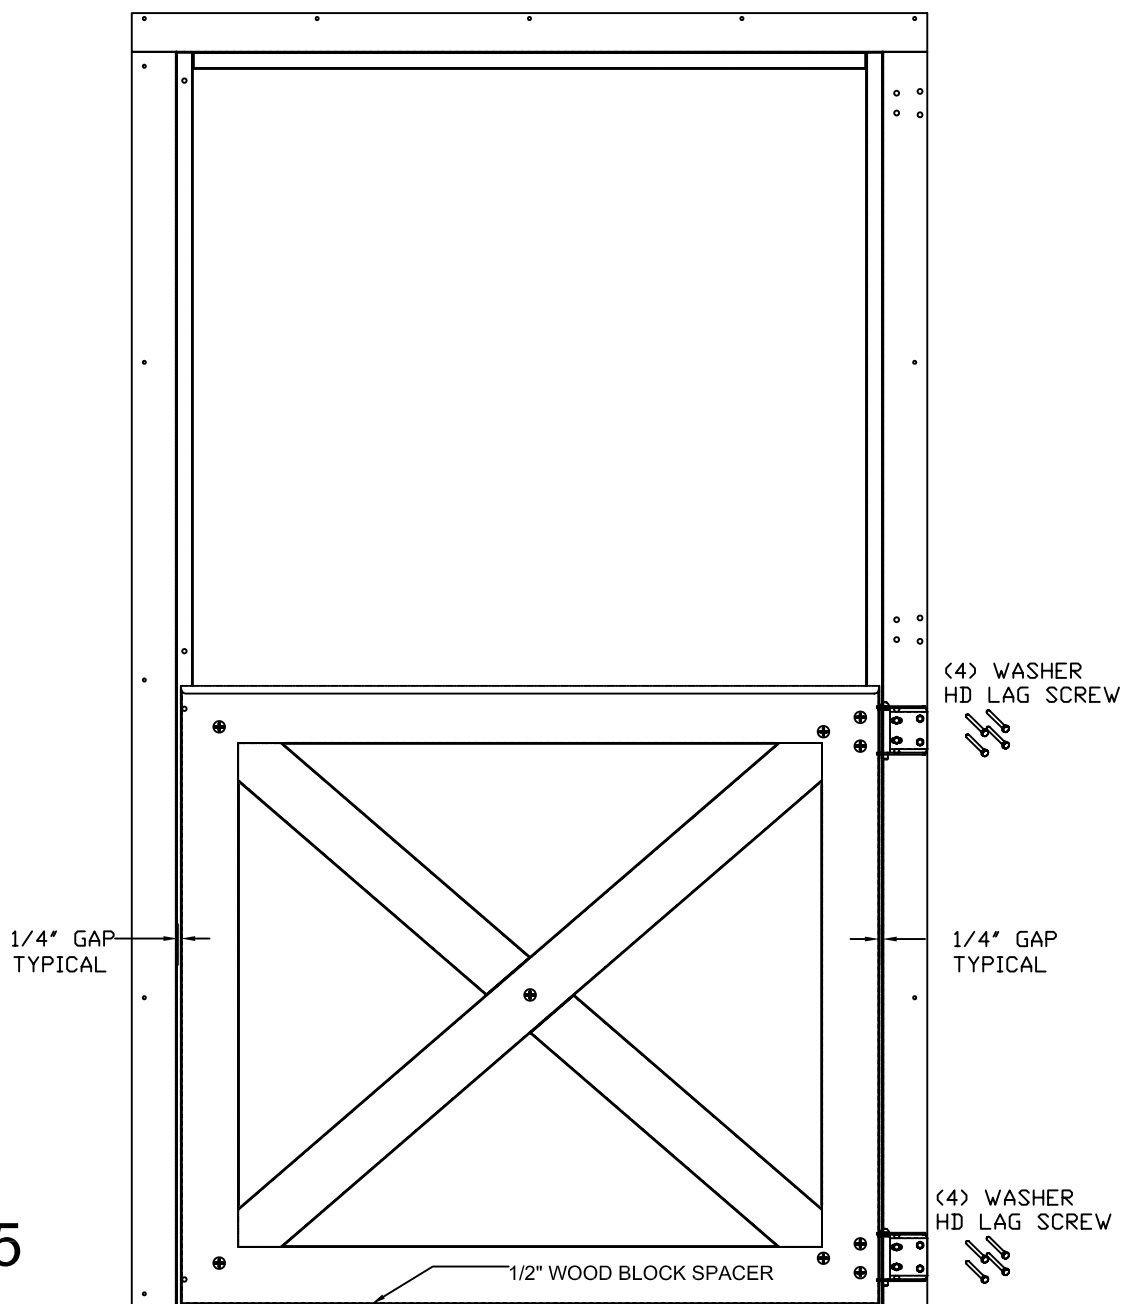

FIG. 5
2. MAKE SURE THERE IS A MINIMUM GAP BETWEEN THE DOOR EDGE AND DOOR FRAME OF AT LEAST 1/4" IF USING A WOOD FRAME AS SHOWN IN FIG. 5 BELOW.
3. NOTE: DDEJS4700 STEEL JAMB KITS ALREADY HAVE PRE-PUNCHED HOLES TO ALLOW FOR THE 1/4" GAP BETWEEN THE DOOR EDGE AND THE DOOR FRAME. INSTALL (4) 5/16" x 2 1/2" WASHER HEAD LAGS IN EACH HINGE THROUGH JAMB. START WITH LAGS IN THE SLOTTED HOLES, THEN LAGS IN ROUND HOLES. LOCK HINGES INTO PLACE AFTER CHECKING FOR LEVEL AND AND CONSTANT GAPS.